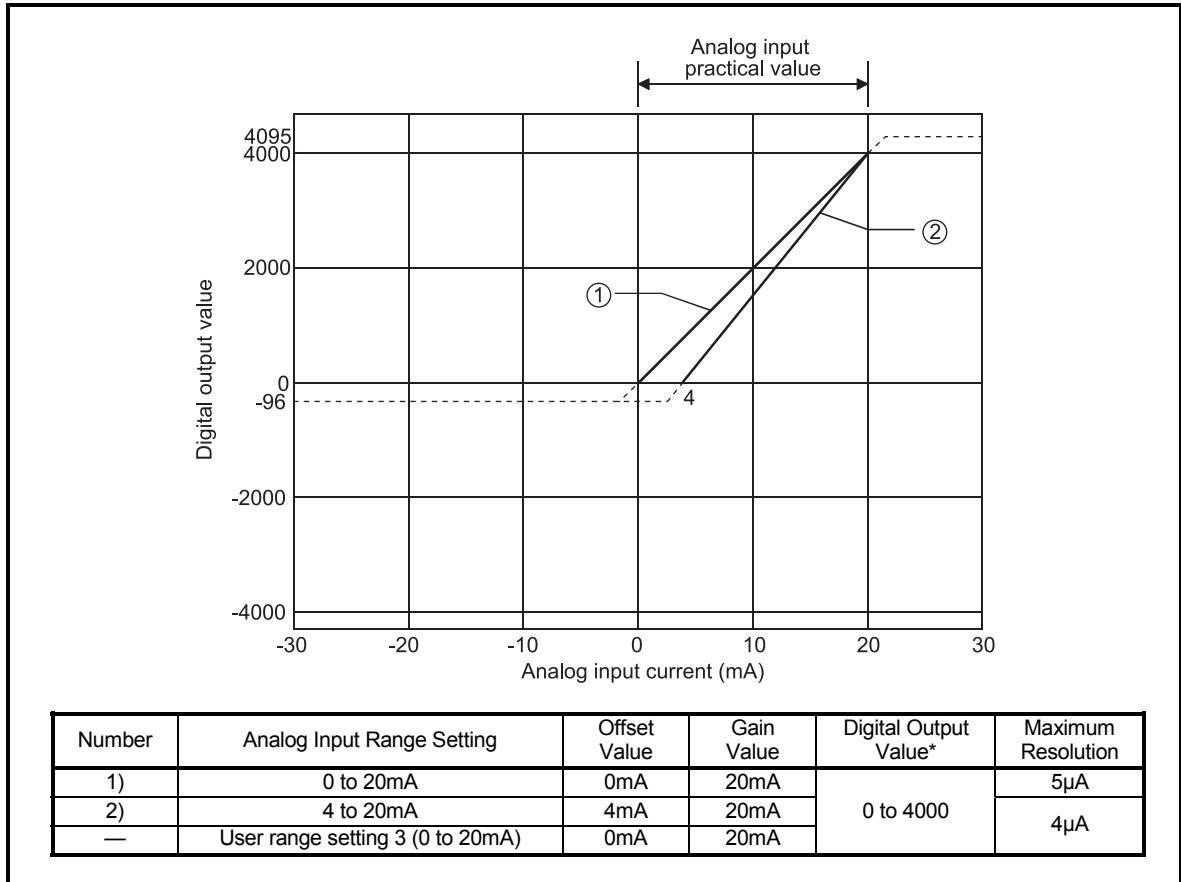

Fig. 3.2 Current Input Characteristic
(1) Do not input more than $\pm 30$ mA. A breakdown may result due to heat increase.
(2) If the analog input provided corresponds to the digital output value* beyond its range, the digital output value is fixed to the maximum or minimum. <ul style="list-style-type: none"> <li>• For 0 to 4000, the digital output value is within the range -96 to 4095.</li> </ul>
(3) Within the analog input and digital output scopes of each input range, the maximum resolution and accuracy are within the performance specification range. Outside those scopes, however, they may not fall within the performance specification range. (Avoid using the dotted line part in Fig. 3.2.)
(4) Set the offset and gain values of the user range setting within the range satisfying the following conditions. <ul style="list-style-type: none"> <li>(a) Setting range when user range setting 3 is selected: 0 to 20mA</li> <li>(b) (Gain value) &gt; (Offset value)</li> </ul> If you attempt to make setting outside the setting range of (a), the "RUN" LED flickers at 0.5s intervals. Set the values within the setting range. If you attempt to make setting outside the setting range of (b), the "RUN" LED flickers at 0.5s intervals. Make setting again.